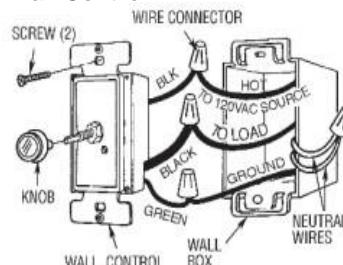

Figure 3
6. Securely connect one BLACK control wire to the (BLACK or RED) load wire from the ceiling fans with a wire connector (supplied) (Figure 3).
9. Carefully install the wall control into the electrical switch box using the installation screws supplied. Do not install the cover plate. Reinstall the knob to the wall control (Figure 3).